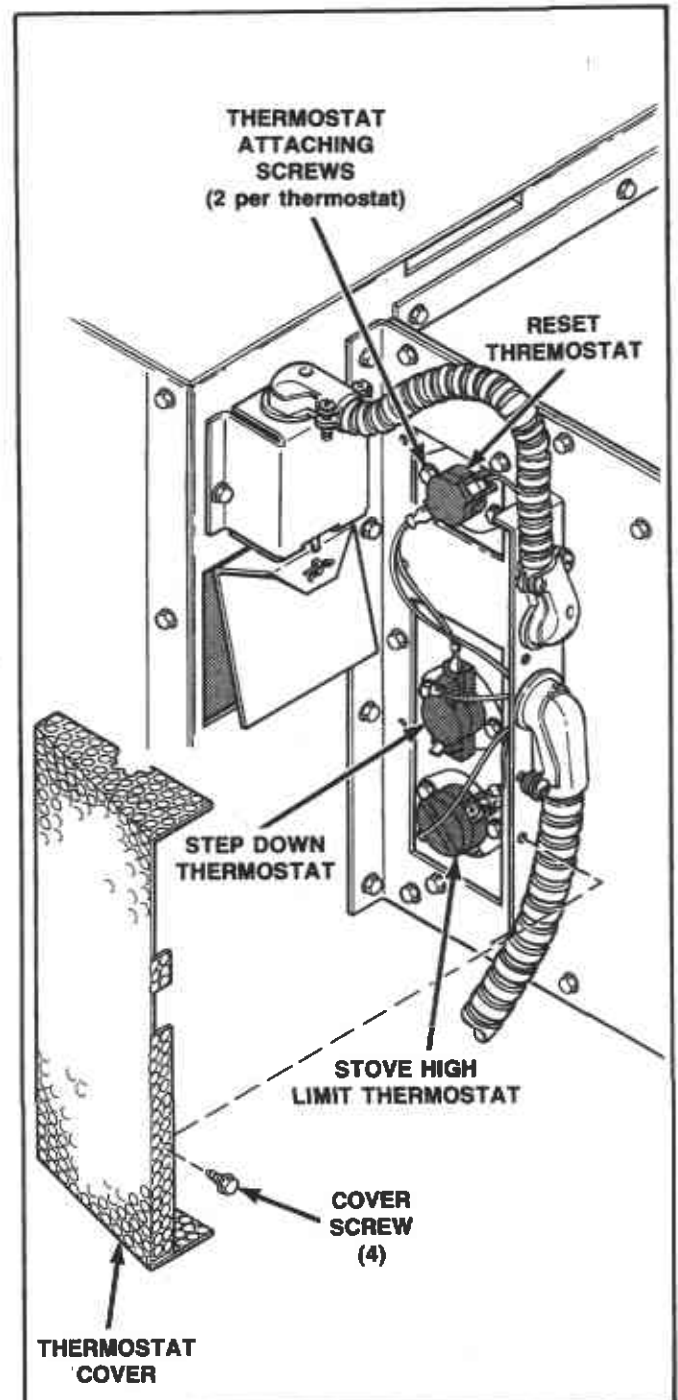

Figure 21
**25. STOVE HIGH LIMIT THERMOSTAT, RESET THERMOSTAT AND STEP DOWN THERMOSTAT (Figure 21)**